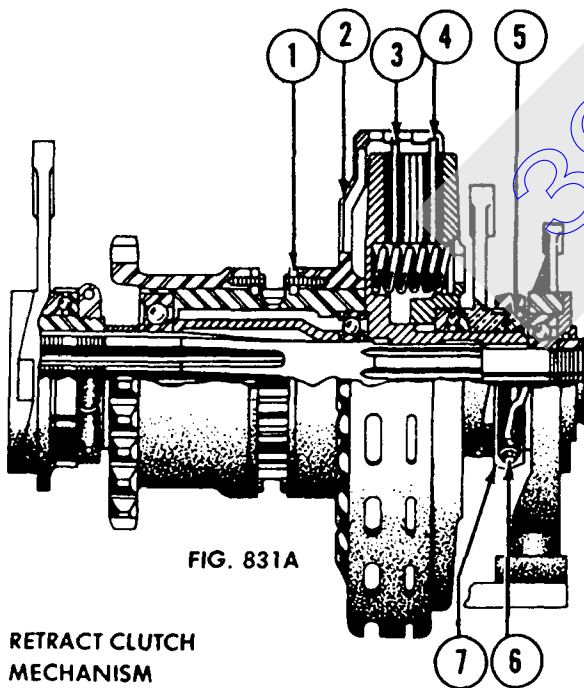

FIG. 831A
(A) Position helical cam lever (7) — Fig. 831A on slotted link to a tighter position until piston rod throw on air cylinder is $3\frac{1}{2}$ " (cold setting).
(A) Remove split retaining washer (1) Fig. 831A. Slide clutch spider (2) in-board. Friction disc (3) and (4) are in halves for ease of replacements. Keep friction disc halves in pairs as they are removed.